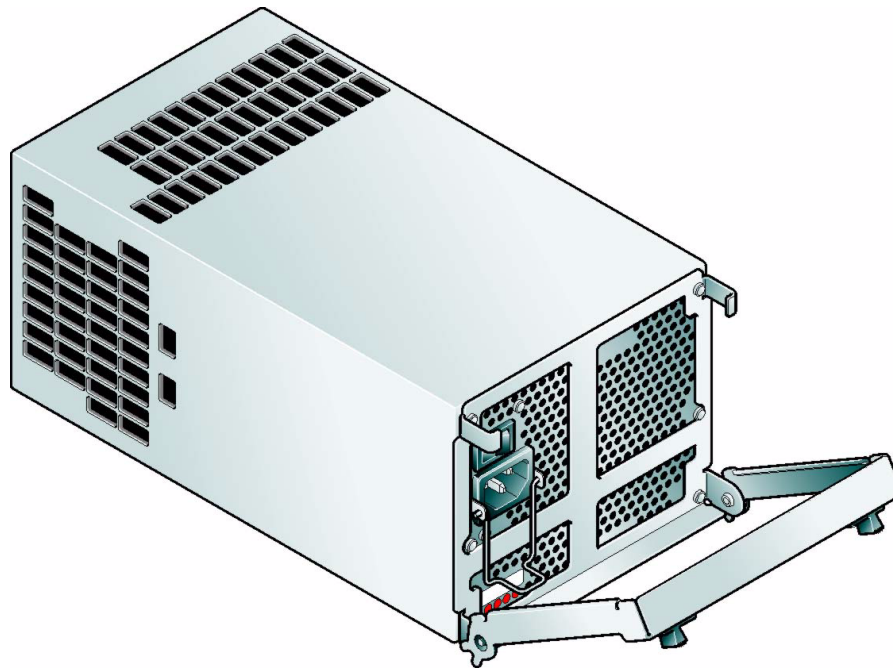
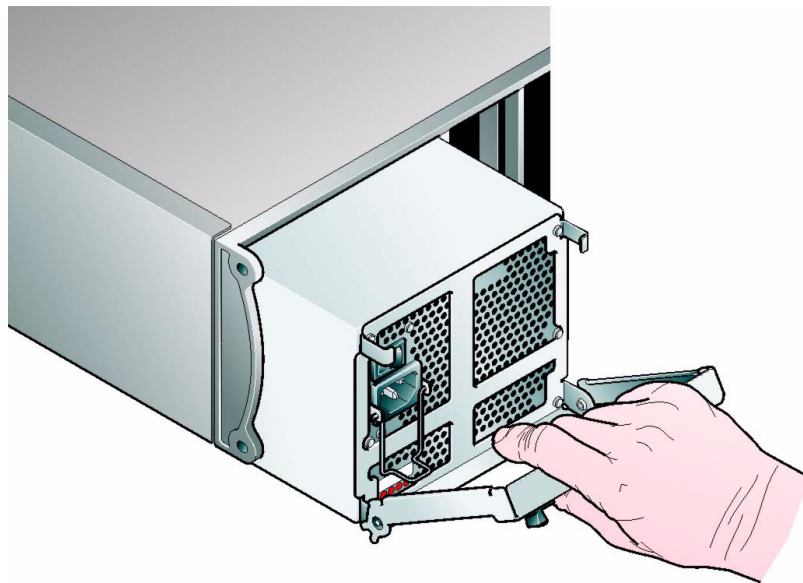

Figure 2-5 AC Power Supply/Cooling Module - Handle in Open Position
Figure 2-6 Installing an AC Power Supply Cooling Module (1)
- 2 With the PSU handle in the open position (Figure 2-5), slide the module into the enclosure (Figure 2-6).